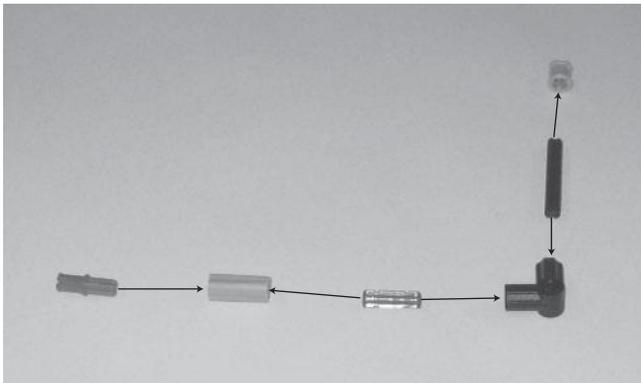

Figure 12.11
Step 1: Connect a connector peg with friction, a cross axle extension, a 2M cross axle with grooves, an angle connector 90 degrees, a 4M cross axle and a bushing together, as shown in Figure 12.11.